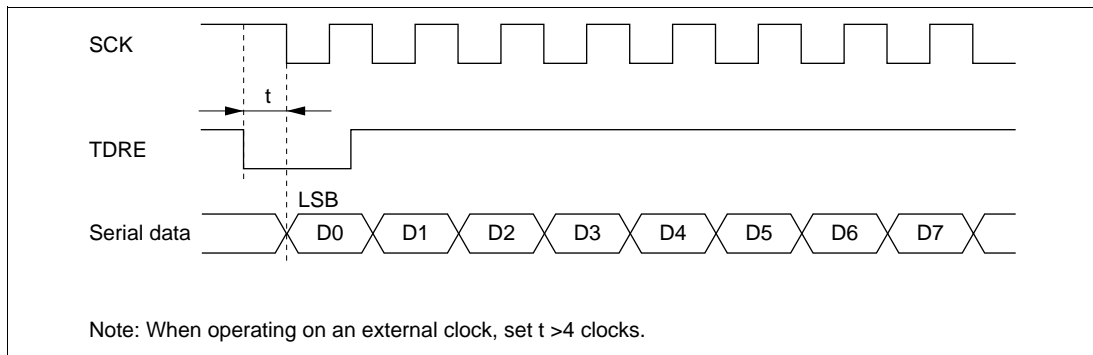

Figure 16-24 Example of Clocked Synchronous Transmission by DTC*
- When an external clock source is used as the serial clock, the transmit clock should not be input until at least 5ϕ clock cycles after TDR is updated by the DMAC or DTC. Misoperation may occur if the transmit clock is input within 4ϕ clocks after TDR is updated. (Figure 16-24)